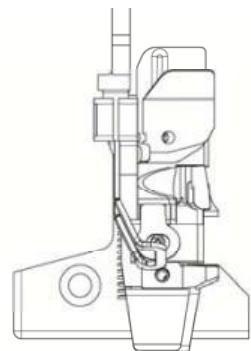

Fig.1
- Before starting the machine, make sure that the presser foot is positioned correctly(turn the machine pulley slowly by hand to see if the needle point is centered in the needle drop hole on the presser)(Fig.1)